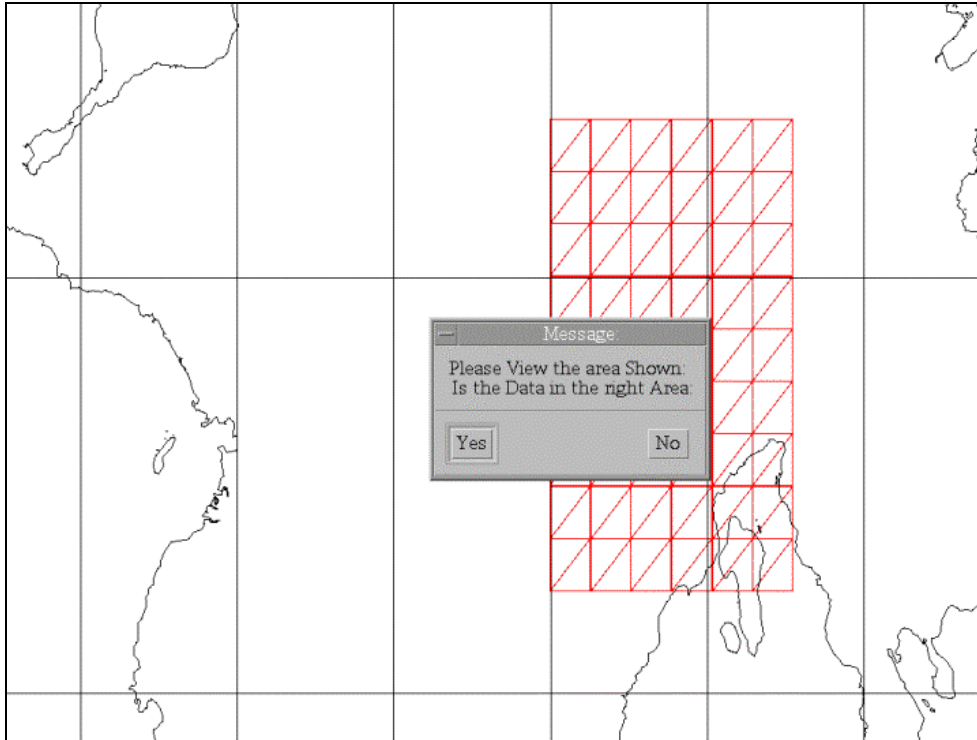
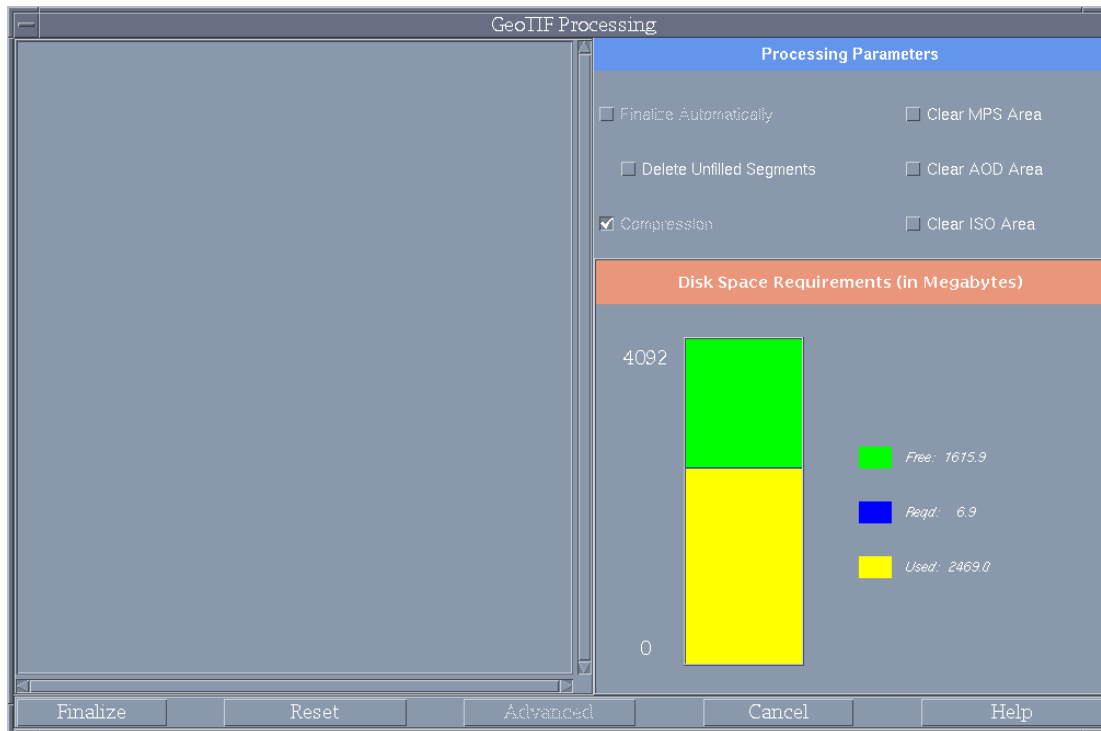

Fig. 43 – Area of coverage verification dialog
Fig. 44 – GeoTIF Processing Window with *Finalize* button
To accept the settings you have chosen, click *Accept* and processing will continue. MMC will display a template representation of the data zoomed into the area of coverage, with an overlay of a latitude and longitude reference grid. MMC will also display a message asking if the coverage is in the right area (Fig. 43). That is, is it in the right location and of the right size and shape? The user may have to move this message to the side if it obscures the template. If the template does not look right, click *No* to the message and determine the cause of the discrepancy. If the data look correct, click *Yes* and a *Processing* meter appears.
At this point, if you selected to finalize the data automatically, MMC will return to the main **MMC Window**. If you unchecked the finalize option, you will now see another dialog that will ask if you wish to finalize now or continue processing data. Click *Finalize [scale]* to finalize the data. The [scale] shown depends on what data you just processed. MMC will again display a template representation of the data zoomed into the area of coverage, with an overlay of a latitude and longitude reference grid. The dialog “Is the data in the right area?” appears (Fig. 43). If the data look correct, click *Yes* to continue.
The **GeoTIF Processing Window** again appears; however, the options are slightly different (Fig. 44). The previous *Accept* button now reads *Finalize* and the advanced options are disabled. To finalize the data, click the *Finalize* button at the bottom left corner of the window. Wait for the *Compressing Data* meter to finish before attempting another task in MMC. This should not take as long as the previous *Processing* meter.
MMC will display a template representation of the data zoomed into the area of coverage, with an overlay of a latitude and longitude reference grid. MMC will also display a message asking if the coverage is in the right area (Fig. 43). That is, is it in the right location and of the right size and shape? If the template does not look right, click *No* to the message and determine the cause of the discrepancy. Otherwise, click *Yes* and MMC will invoke the **GeoTIF Processing Window** (Fig. 44). Click *Finalize* in the bottom left corner of the window to finalize the data. MMC will display a compression meter showing the percent complete. **Wait until compression has finished before attempting another task in MMC!**
- c) A bitmap of the map segments to be processed from this geotiff data is displayed (Fig. 43). Verify the approximate geographic extents of the map coverage shown and if correct, click Yes.